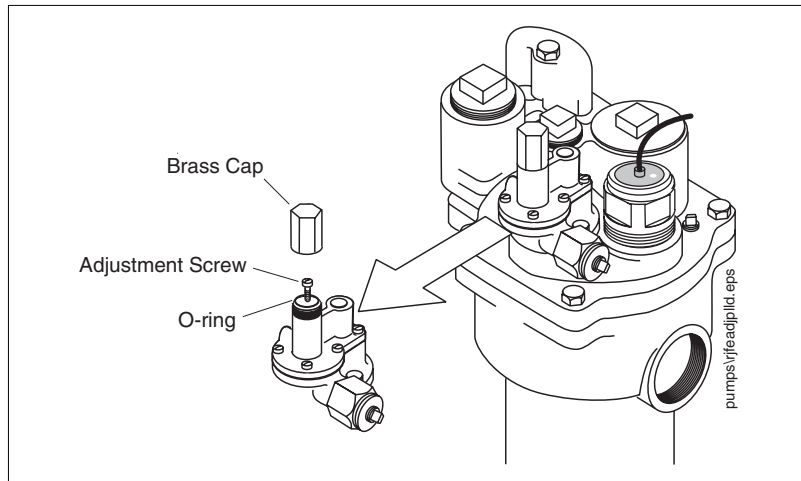

Figure 26. Pressurstat adjustable valve assembly (Red Jacket Standard pump shown)
1. Unscrew the protective brass cap from the adjustment screw (Figure 26).